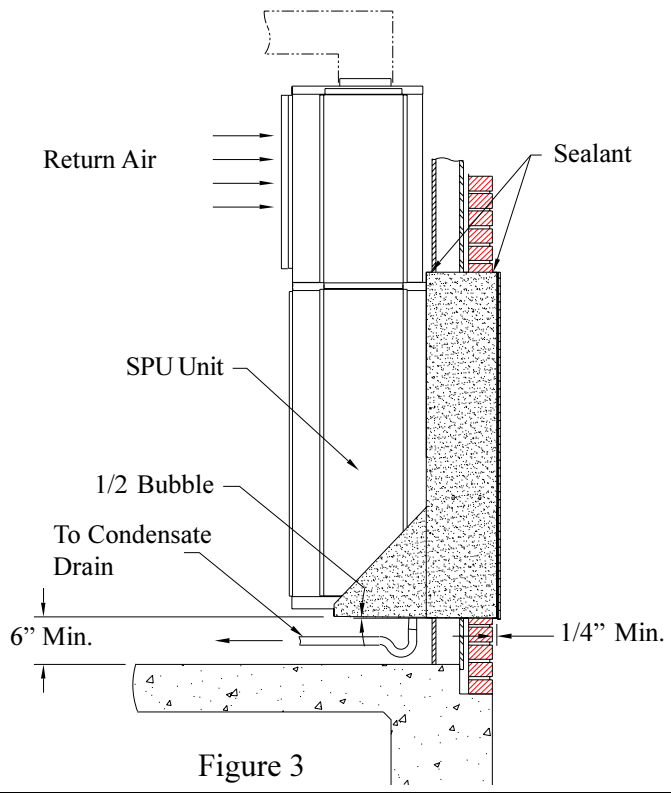

Figure 3
5. The front edge of the sleeve should protrude 1/4" to 1/2" from the finished outside surface of the wall (Fig. 3).
6. Align the sleeve with the wall so that the bottom pan is angled 1/2 bubble toward the outside of the building (Fig. 3).
9. Place a bead of silicone sealant or other high grade non-hardening sealing compound approved for exterior use to seal the gap between the wall sleeve and both the inside and outside wall surfaces (Fig. 3). Sealant should also be applied around the heads of the fasteners used to secure the sleeve.